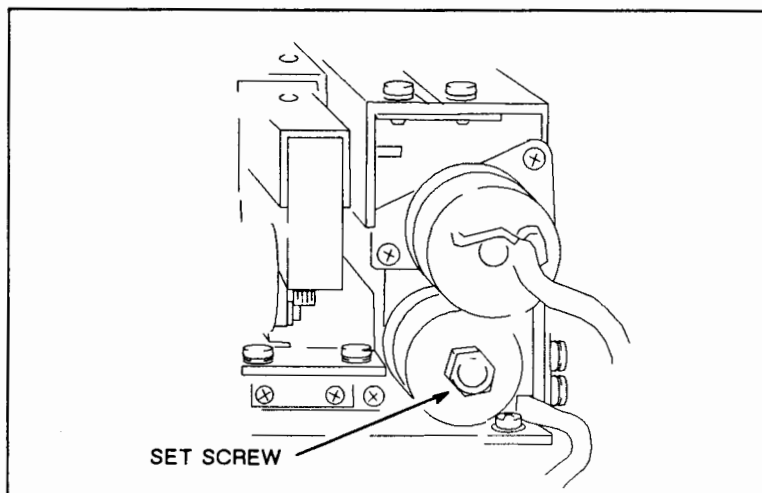

Figure 6-4. Roller Clutch
- a. Turn the plotter line switch to OFF (O) and disconnect the ac power cord.
- b. Turn the clutch so that the set screw in the adjusting nut can be reached. See Figure 6-4.